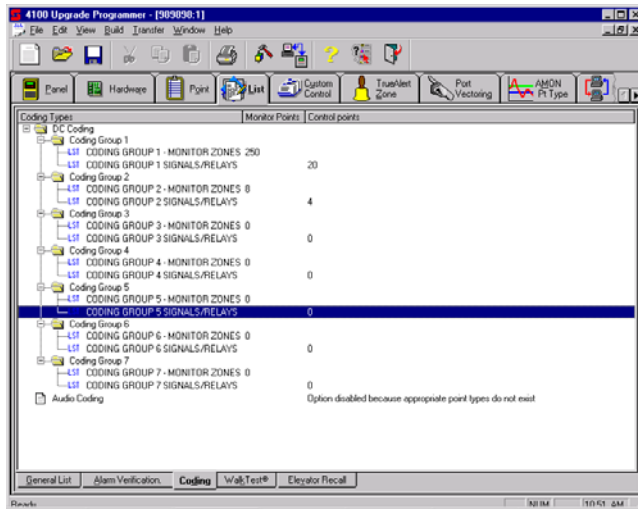

Figure 9-12. Coding Tab
2. Click on the Coding tab at the bottom of the List Window. A screen similar to the one shown in Figure 9-12 appears.